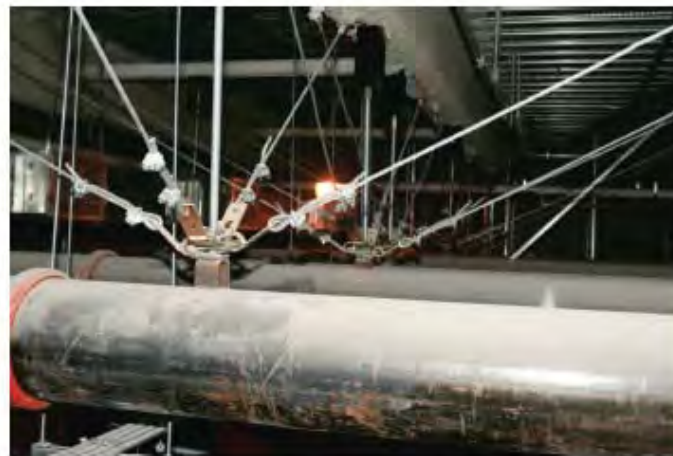

Figure 6.4.3.1-6 All-directional cable bracing of suspended piping (Photo courtesy of ISAT).
- be built up of multiple elements to form a trapeze or braced frame. (Fig 6.4.3.5-5)
- Use All directional cable bracing (Fig 6.4.3.1-6)
- Use Sway Bracing with J Hanger and strut (Fig 6.4.3.1-7)
Figure 6.4.3.1-7 Transverse bracing with J-hanger and strut at the restraining bolt. Note that longitudinal brace shown is ineffective because the J-hanger can slip along the length of the pipe; a pipe clamp or equivalent is required for a longitudinal brace (Photo courtesy of Cynthia Perry, BFP Engineers).